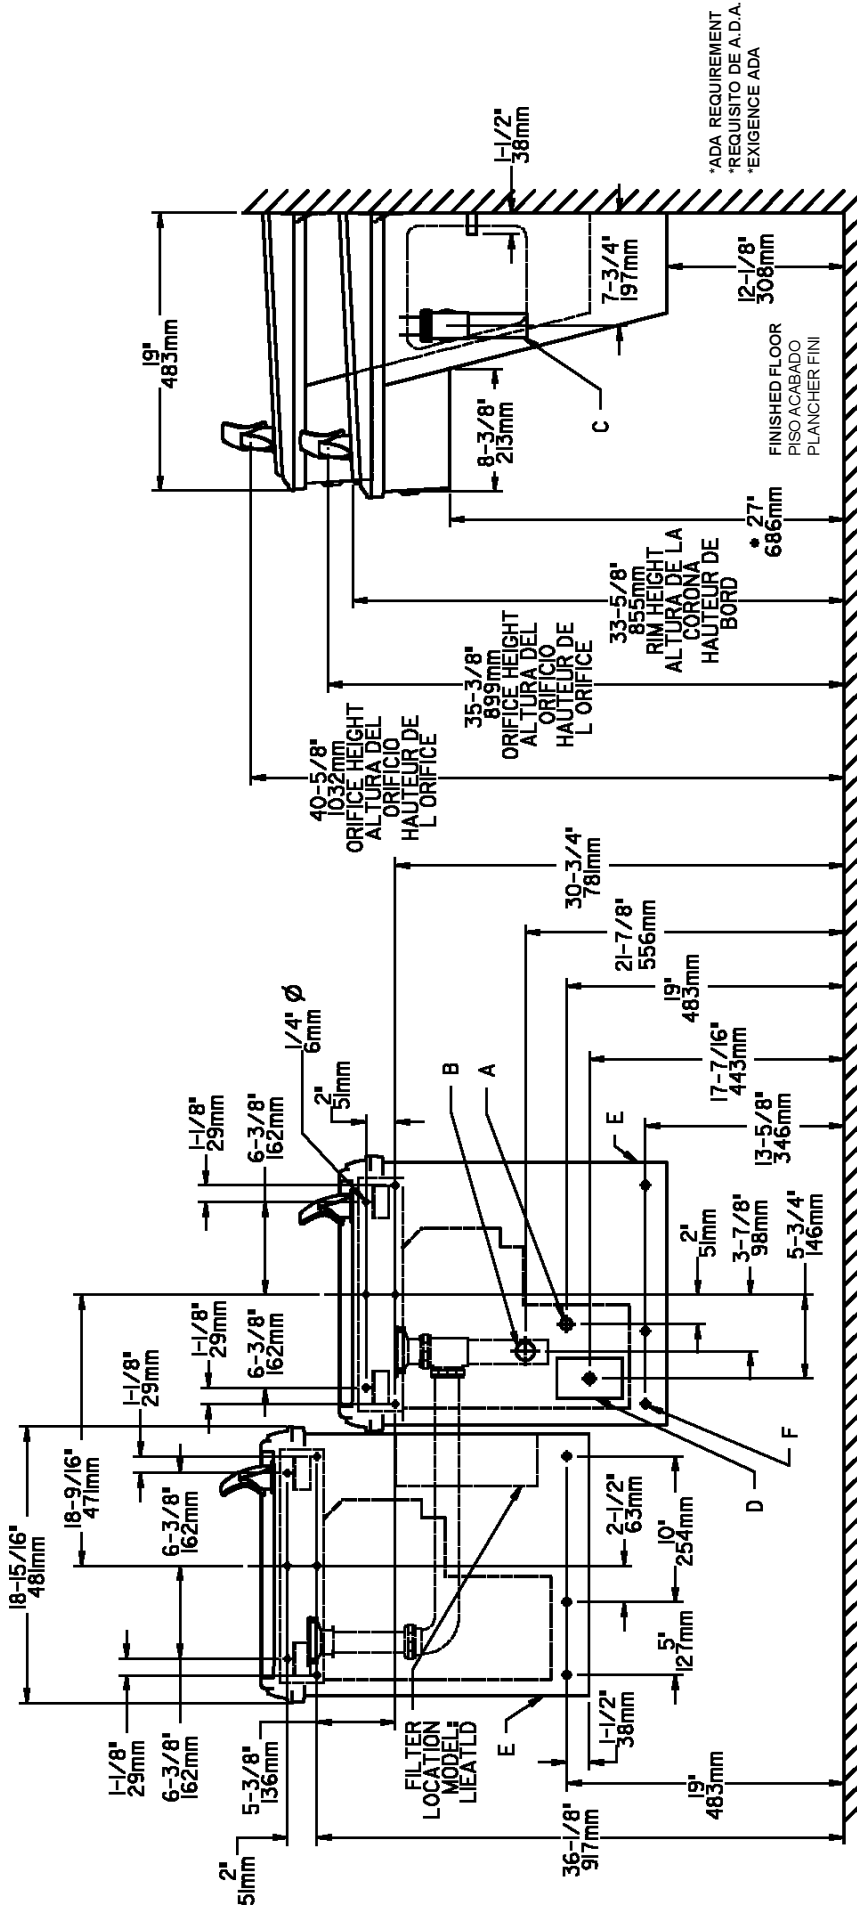

FIG. 2
- 1) Remove hanger bracket fastened to back of cooler by removing one (1) screw.
- 2) Mount the hanger bracket and trap as shown in Figure 2.
- 4) Hang the cooler on the hanger bracket. Be certain the hanger bracket is engaged properly in the slots on the cooler back as shown in Figure 2.
- 5) Loosen the two (2) screws holding the lower front panel at the bottom of cooler base and two (2) screws at the top. Remove the front panel and set aside.
- 1) Quite el fijador de suspensión sujetados a la parte posterior del enfriador quitando un (1) tornillo.
- 2) Monte el fijador de suspensión y quite el purgador como se muestra en la Fig. 2.
- 1) Retirez le support de suspension à l'arrière du refroidisseur en enlevant une (1) vis.
- 2) Installez le support et le siphon tel qu'indiqué à la fig. 2.